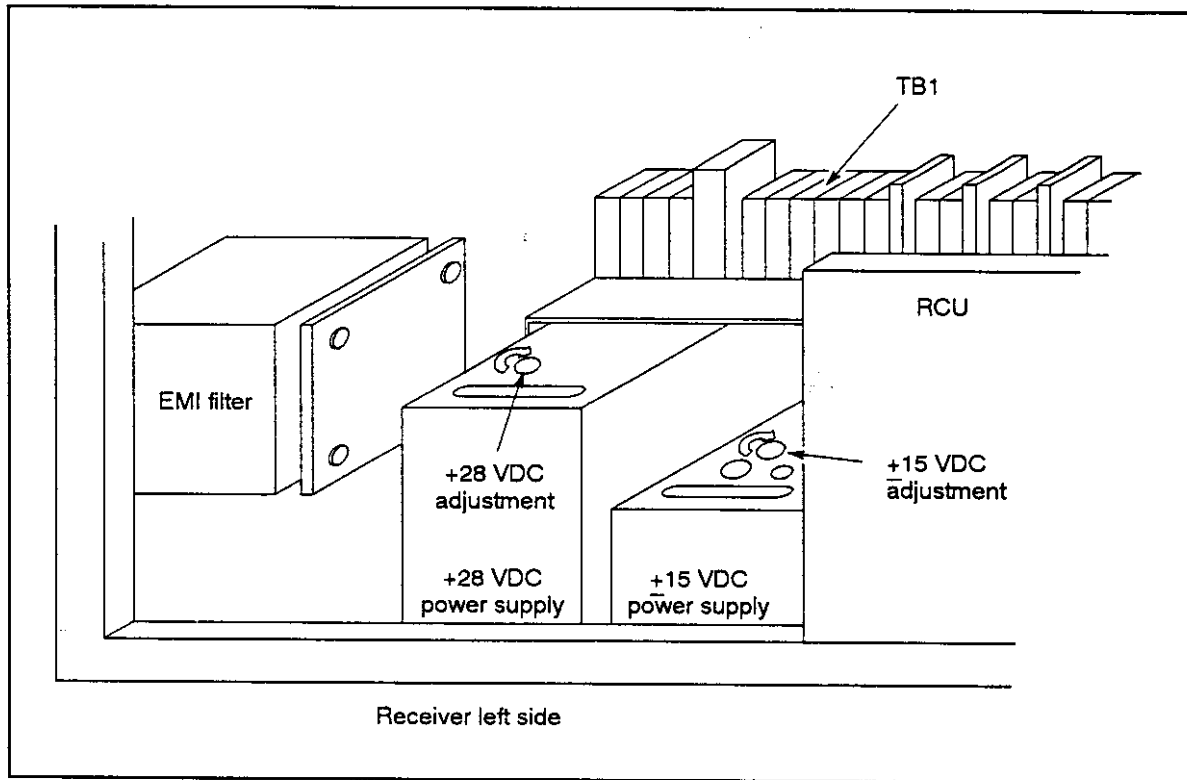

Figure 47. Receiver +28 & +15 VDC Power Supplies.
- If necessary to adjust the output level, use Figure 47 to locate the voltage adjustment points.
- c. If necessary to adjust the output level, use Figure 47 to locate the voltage adjustment points.